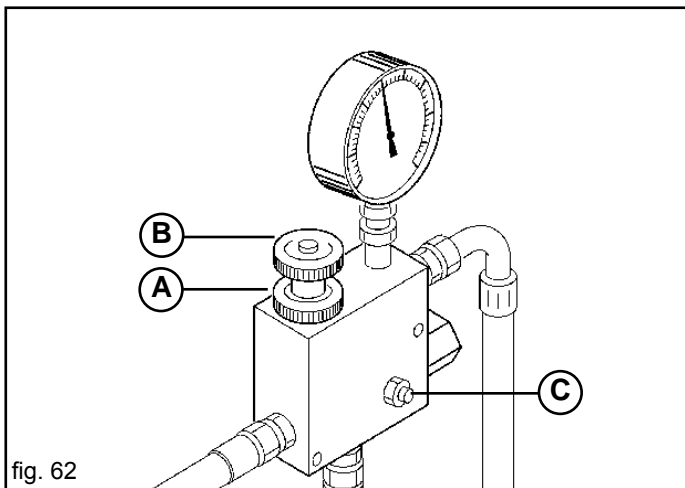

fig. 62
In tractors with a variable flow rate pump (closed hydraulic circuit), equipped with oil flow rate regulator, open the three-way regulator completely (B Fig. 62) and, starting with a low oil flow rate, gradually open the internal regulator of the tractor circuit until the required pressure is reached as shown by the pressure gauge (C Fig. 61).
If you wish to increase the number of revolutions of the fan for distributing heavier seeds, carefully proceed as follows (Fig. 62):
- loosen the handwheel (A Fig. 62);
- rotate the handwheel (B Fig. 62) clockwise or anticlockwise to reduce or increase pressure and adjust the number of revolutions of the blower accordingly.
It is strictly forbidden to touch act on the dowel (C Fig. 62) for any reason, as this would unset the system and could lead to the motor, the pump or the fan.